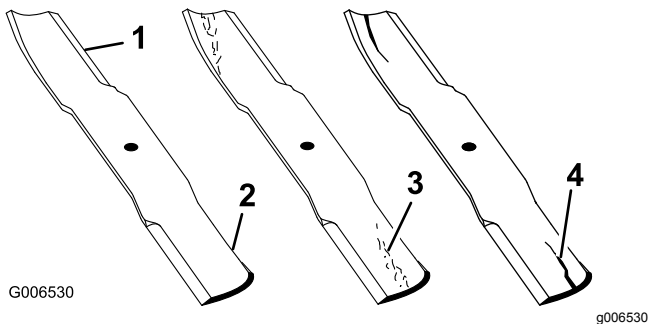

Figure 91
1. Inspect the cutting edges (Figure 91).
4. If you notice any cracks, wear, or a slot forming in this area, immediately install a new blade (Figure 91).